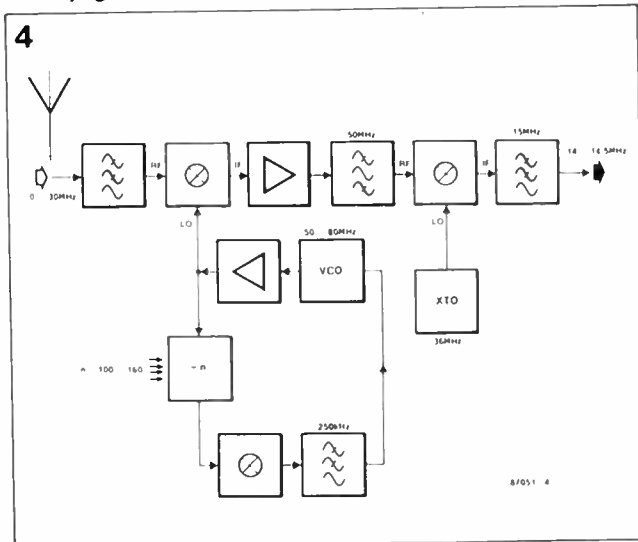

Fig. 4 Suggested block diagram of a 0 – 30 MHz converter.
The unit described can form the tuneable IF section of a 0–30 MHz communication receiver. A suggested block diagram is given in Fig. 4, while the practical circuit of the synthesizer can be found in (1). The output of the converter is fed to the 20 m input of the present receiver, whose 80 m input can be omitted. Computer control of the receiver so made is rela-